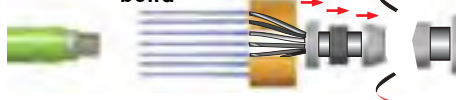

Fig. 14.5 Fit divided insulating sleeve
2. Pull the insulating sleeve (10) apart and press the conductors together again until they engage (Fig. 14.5).